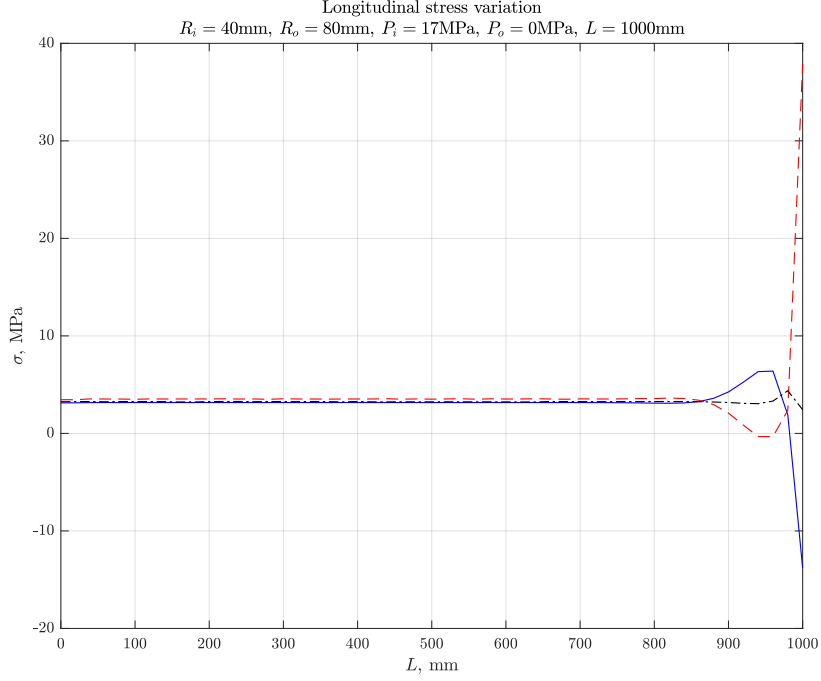

Figure 2.5: Stress variation in length.
- 3D numerical results shows no significant change in longitudinal stress (σ_z) which satisfies the plane stress and strain assumptions(fig. 2.5).
- Longitudinal stress oscillations in the cylinder length (fig. 2.5) showcases model sensitivity to proper boundary conditions which is dealt with through finer mesh sizes.